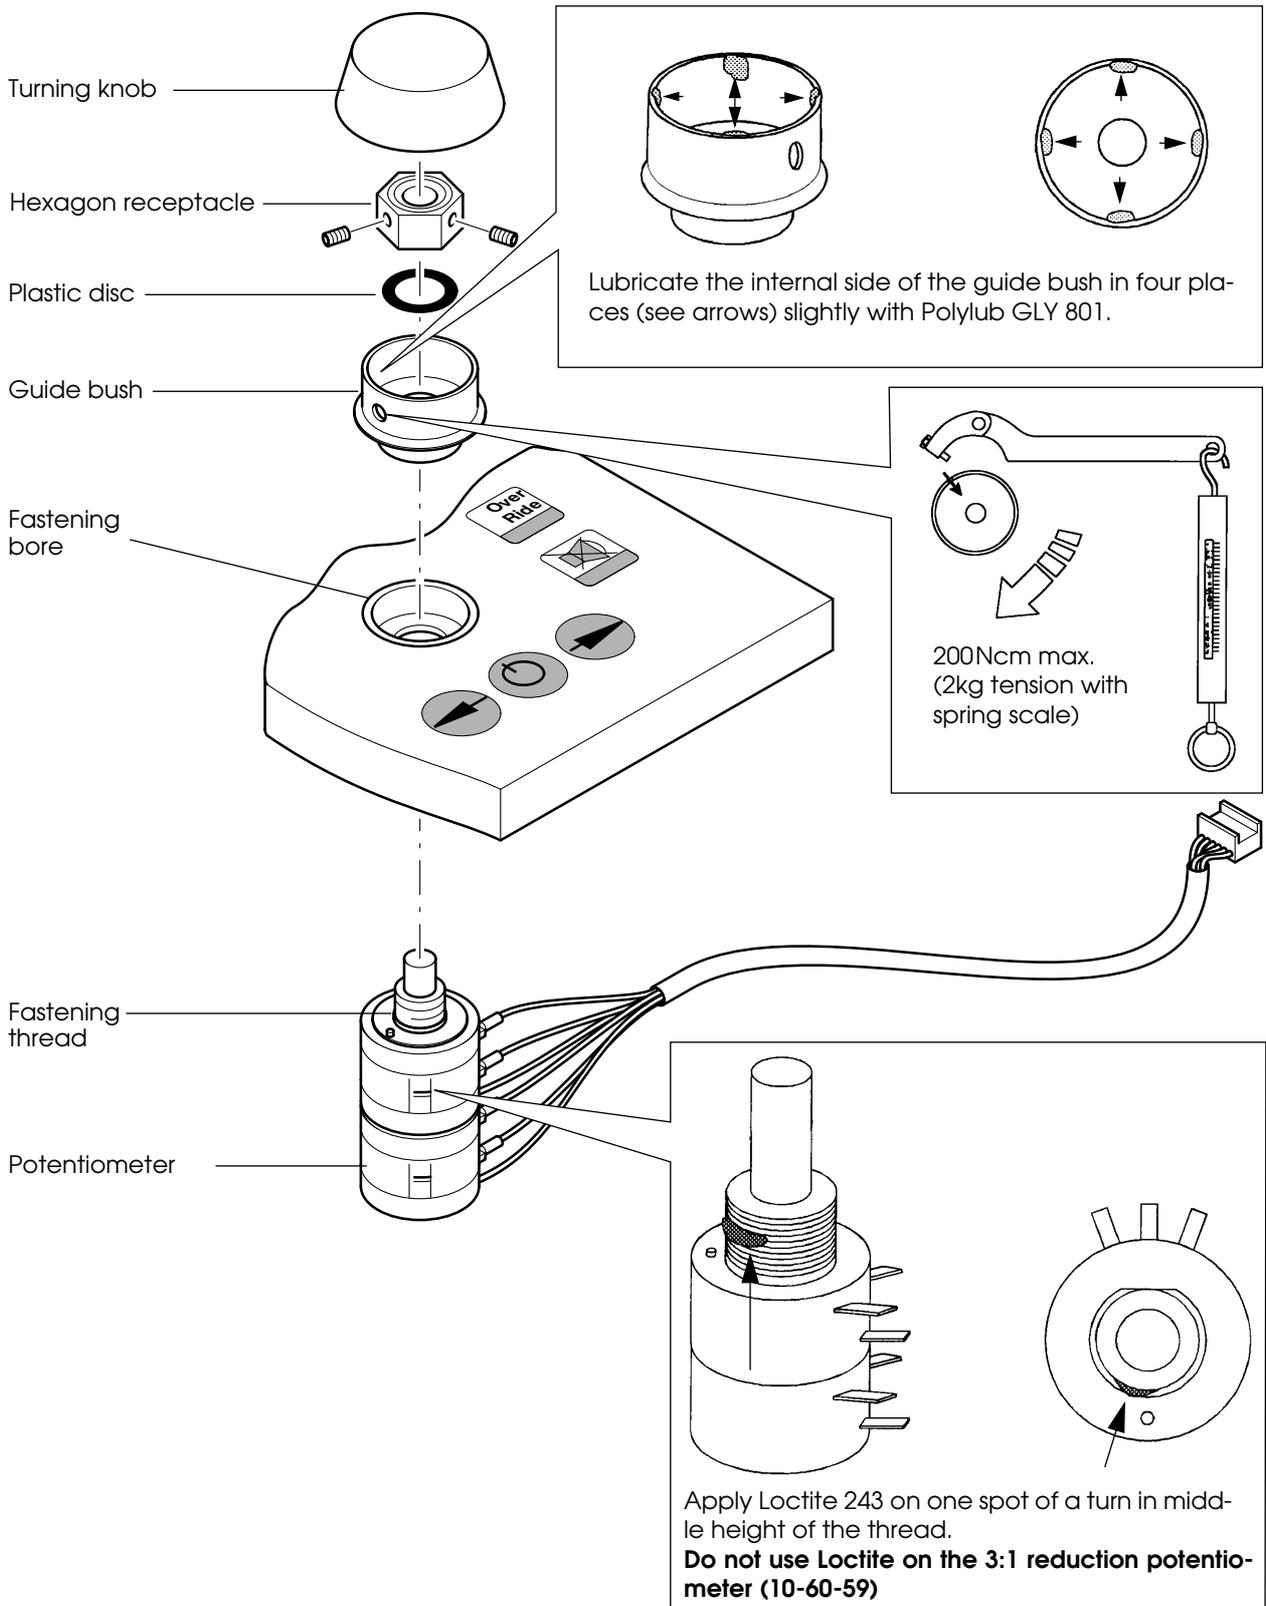

Fig. 26 Potentiometer for double head pump and roller pump
- Slightly grease the guide bush on the internal side with Polylub GLY 801 as shown in Fig. 26.
- Clamp hexagon receptacle with the two set screws to the potentiometer axis (Allan key 1.5).